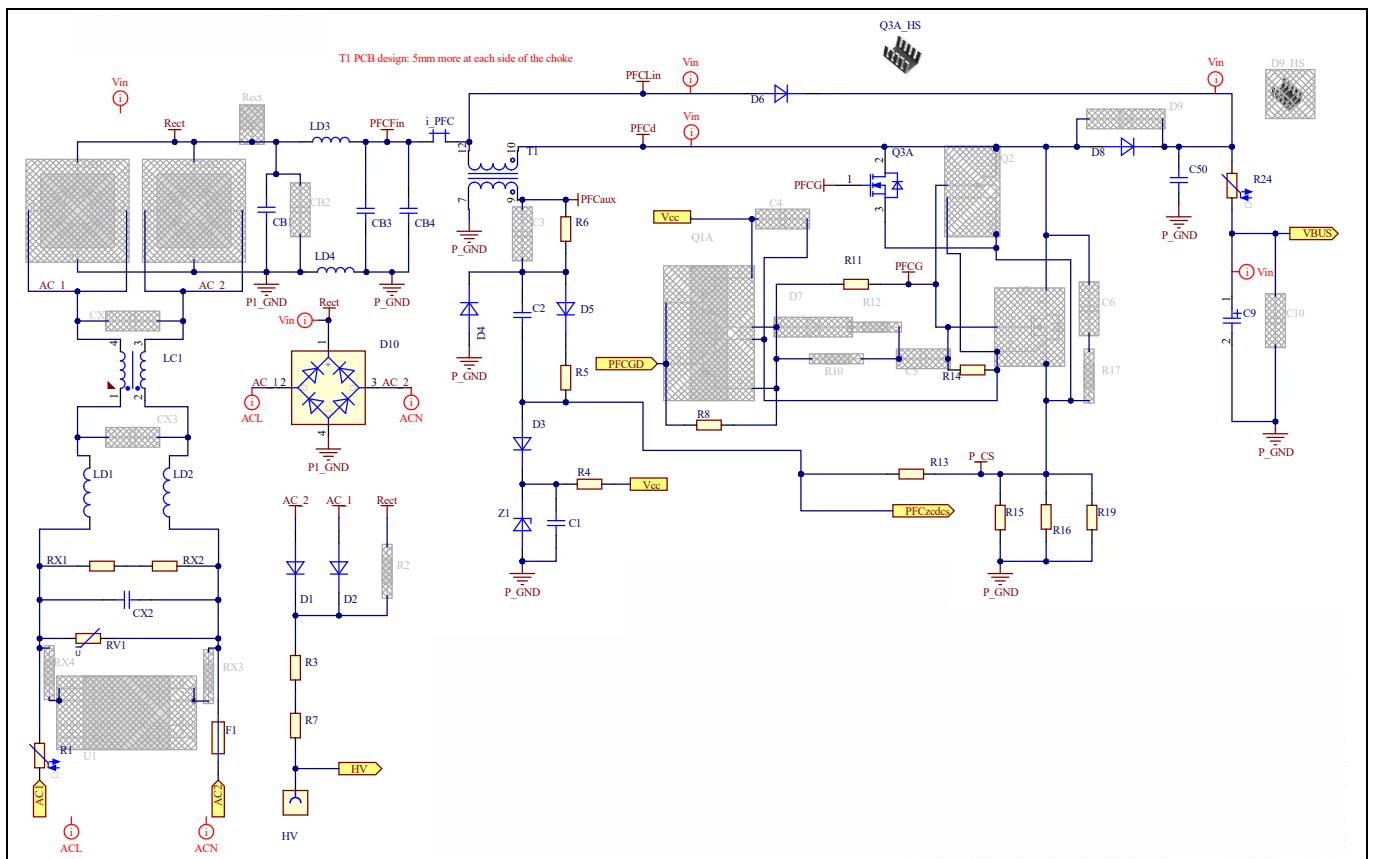
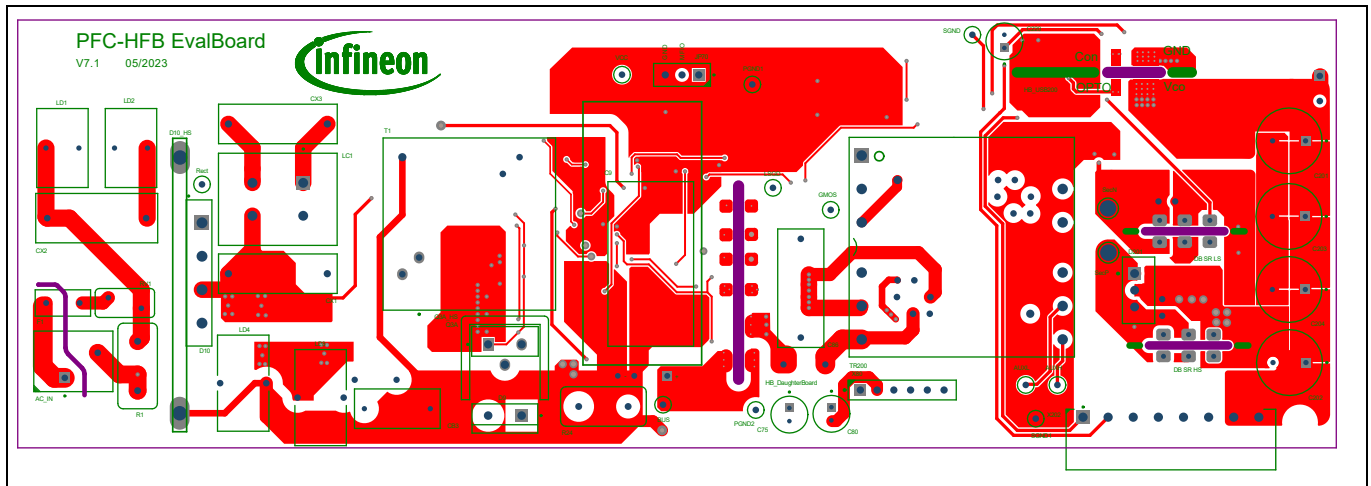
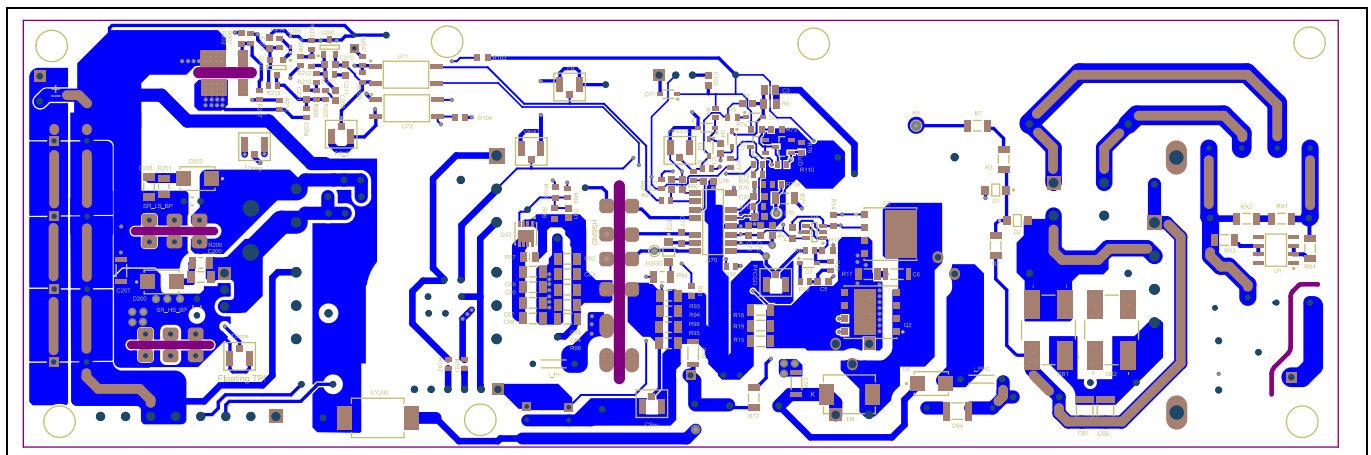

Figure 3 PFC stage schematic
Figure 5 Main board PCB: top side
Figure 6 Main board PCB: bottom side
The schematic and PCB layout of the main board are shown in Figure 3 to Figure 6. It can be seen that the evaluation board allows for further optimization by providing assembly variants. Not-assembled parts are grayed out in the schematics.
Figure 3 shows the power circuitry of the AC input and PFC stage, including the input protection and EMI filter (RV1, CX2, LC1, D10, CB1, CB2, LD3, LD4, CB3 and CB4; devices LD1 and LD2 are shorted with a wire and therefore shown as “fitted”), and the start-up cell external circuit (D1, D2, R3 and R7). The PFC zero-crossing detection (ZCD) and current sensing (CS) signals are combined into a single signal, PFC_{zcdcs} , which is connected to IC pin PFCCS. The voltage at the PFC auxiliary winding, which is coupled to the PFC main inductance (T1), is processed by the devices R6, D4, D5, R5, C2, D3, Z1, C1 and R4 to generate the ZCD signal, where D4 is for the negative clamping, and the network D3, Z1, C1 and R4 limits the positive voltage of the ZCD signal. Per resistor R13, the ZCD signal is effectively de-coupled from the PFC CS resistors R15, R16 and R19, which provide the CS
To keep system costs low, two-layer PCBs are used for all boards except the USB-PD EPR-board. Figure 5 and Figure 6 show the PCB layout of the main board.